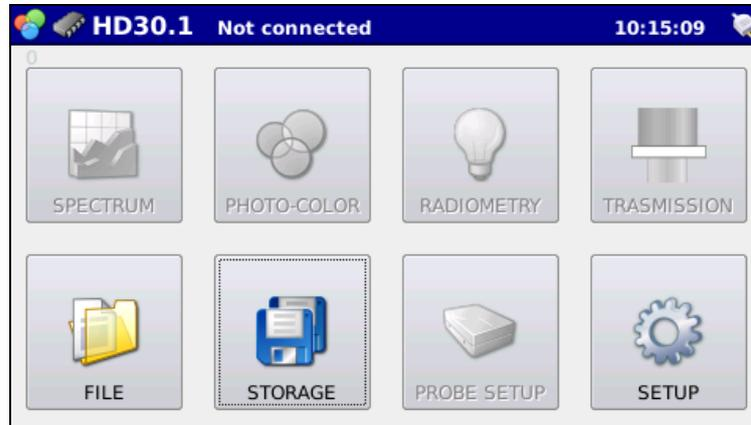
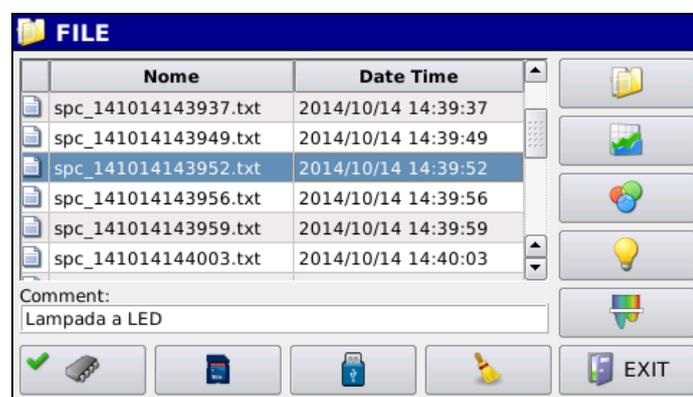
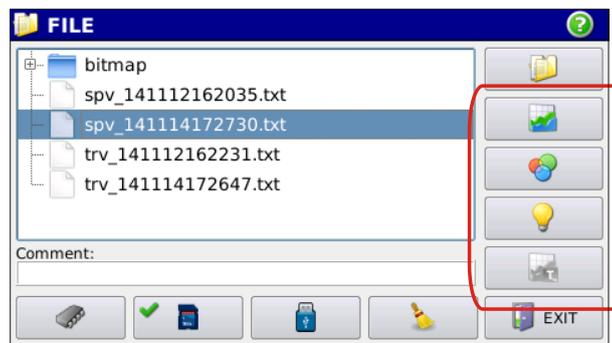
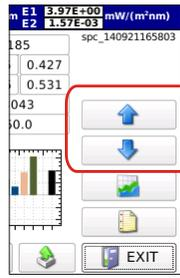

Fig. 4.1: STORAGE and FILE buttons allow measurements to be monitored and recalled.
Fig. 4.11: display of the measurements stored in one of the available memories (internal memory,  $\mu$ SDcard, USB device).
Fig. 4.12: Data contained into selected file can be displayed by using the highlighted keys.
Fig. 4.14 : Arrow keys can be used to display files stored in memory.
the main screen (fig. 4.1)
4.4 Press  to return to the main screen (Fig. 4.1).
4.5 Press  in the main screen to display stored measurements (fig. 4.1). Pressing the button will open the fig. 4.11 window.
4.5.1 Select the desired file. The selected file will appear on BLUE background (fig. 4.11); at this stage, the file can be displayed using the buttons on the right of the screen (fig. 4.12).
The arrows highlighted in figure 4.14 allow next measurement to be displayed directly with no need to go back to the FILE menu (fig. 4.11).
Press **EXIT** to return to the FILE menu (Fig.4.11).
Press  to return to the file handling page (fig. 4.11)